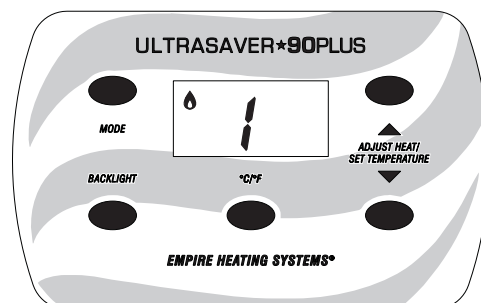

Figure 14
6. After the burner lights, the flame icon on the display panel will appear and the wall furnace will automatically adjust to the heat level shown on the display. The wall furnace will always ignite on Level 5 (High) prior to adjusting to the heat level shown on the display panel. **See Figure 14.**